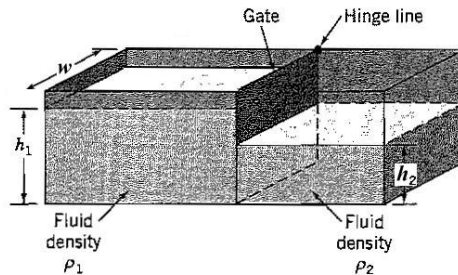

Figure P2.26
2.26 The tank shown in Figure P2.26 has a gate which pivots on a vertical, frictionless hinge located at the top of the gate. Find the ratio of the depths of water h_1/h_2 in terms of the densities ρ_1 and ρ_2 when the gate is in static equilibrium.